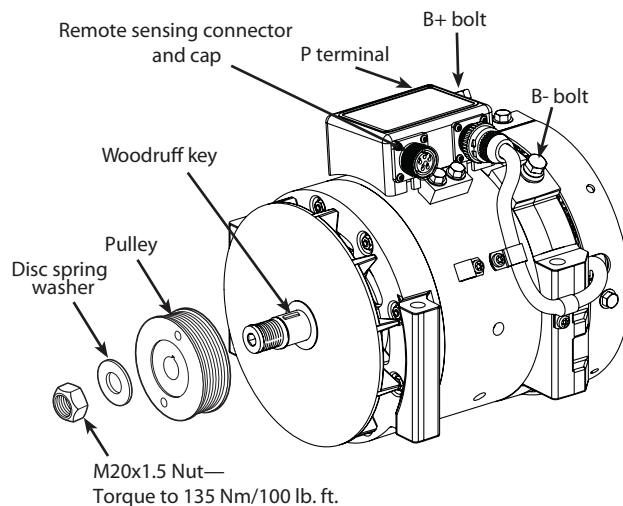

Figure 1—Alternator with Regulator Installation Details
- Regulator electrical connections (see Figure 1):
- Alternator electrical connections (Figure 1):